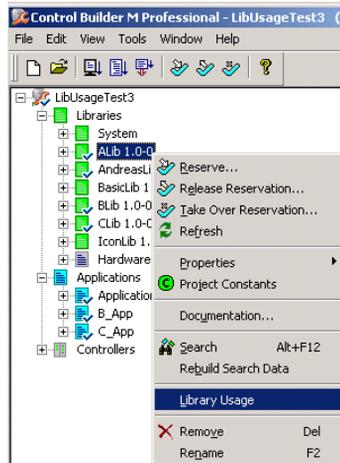

Figure 41. Library Usage
1. Right-click the library and select Library Usage as in Figure 41. The Library Usage dialog box is displayed with list of applications where the library is connected.